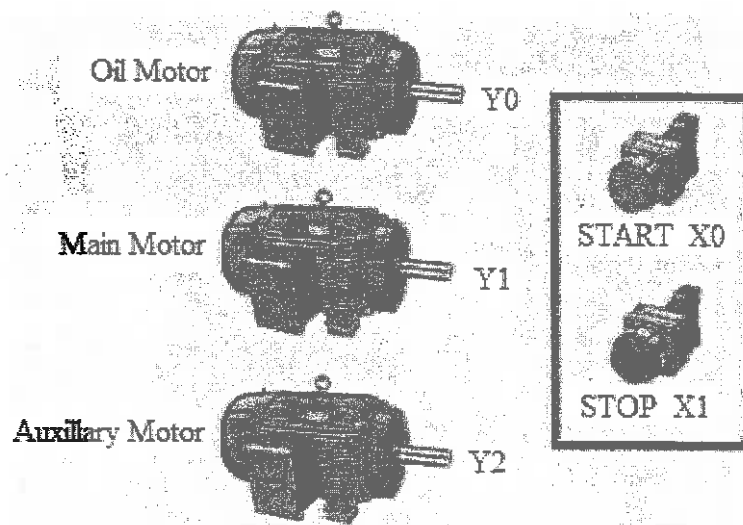

Figure Q3(b). Motors for Question3 (b)
- (b) Draw a Programmable Logic Controller (PLC) ladder diagram to control 3 motors starting sequentially with delay as shown in the **Figure Q3(b)**. Start the oil pump motor immediately when START is pressed. The main motor will be started after a 10 sec delay and then the auxiliary motor will be started after a 5 sec delay. In addition, stop all motors immediately when STOP is pressed. The requirements for ladder diagram are given in **Table Q3(b)**.